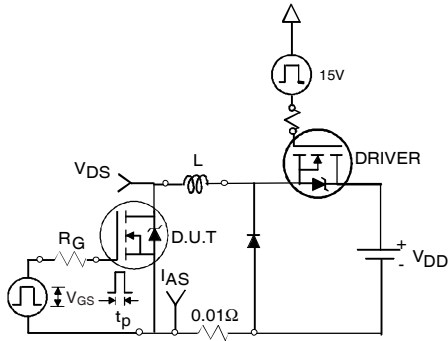

Fig 12a. Unclamped Inductive Test Circuit
- ③ $I_{SD} \leq 75A, di/dt \leq 340A/\mu s, V_{DD} \leq V_{(BR)DSS}, T_J \leq 175^\circ\text{C}$.
- ④ Pulse width $\leq 1.0\text{ms}$; duty cycle $\leq 2\%$.
- ⑤ $C_{oss\text{ eff.}}$ is a fixed capacitance that gives the same charging time as C_{oss} while V_{DS} is rising from 0 to 80% V_{DSS} .
- ⑥ Limited by T_{Jmax} , see Fig.12a, 12b, 15, 16 for typical repetitive avalanche performance.
- ⑦ This value determined from sample failure population. 100% tested to this value in production.
- ⑧ This is applied to D²Pak, when mounted on 1" square PCB (FR-4 or G-10 Material). For recommended footprint and soldering techniques refer to application note #AN-994.
- ⑨ R_θ is measured at T_J of approximately 90°C .
3. Equation below based on circuit and waveforms shown in Figures 12a, 12b.